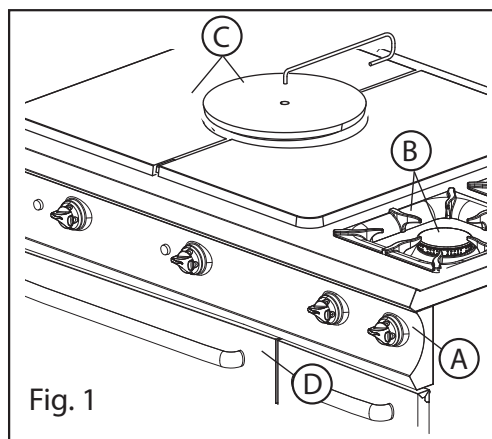

Fig. 1
- Close the cut-off cock upstream the machine (Fig. 1);
- Close the cut-off cock upstream the machine (Fig. 1).
- Replace the pilot injector (Fig. 1) with the one corresponding to the selected gas according to what reported in the reference Table.
- Replace the injector (Fig. 1) with the one corresponding to the selected gas according to what reported in the reference Table.
- Unscrew the locking screw (Fig. 1).
- Where required set the distance (X) mm of the bushing corresponding to the selected gas (see Gas reference Table).
- With the appropriate tools, adjust the opening of the pilot hole (Fig. 1) to set the following:
2. Remove the grilles, burner caps and burners (Fig. 1/A burner 5.5 / 7 kW - Fig. 1/B burner 11 kW)
1. Remove the panel and knobs (Fig. 1/A)
2. **Stove:** remove the grills and burner-caps (Fig. 1/B)
Solid top 980: remove the central disc with the appropriate manoeuvring tool and the side plates (Fig. 1/C).
Oven: open the door (Fig. 1/D).